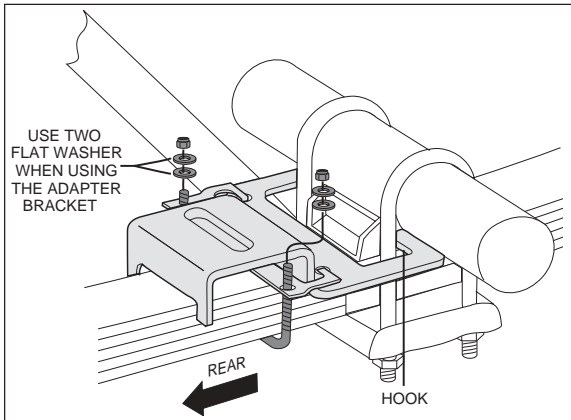

Figure 3
3. *For 2WD models: The lower bracket must be turned so that the finger portion of the bracket it is located around the vehicle U-bolt (Figure 3).*
- a. Use the provided adapter bracket to mount kit behind the axle only on the side where the shock is next to the assembly. No adapter is needed when the shock is on the opposite side of the axle (Figures 3 & 4).